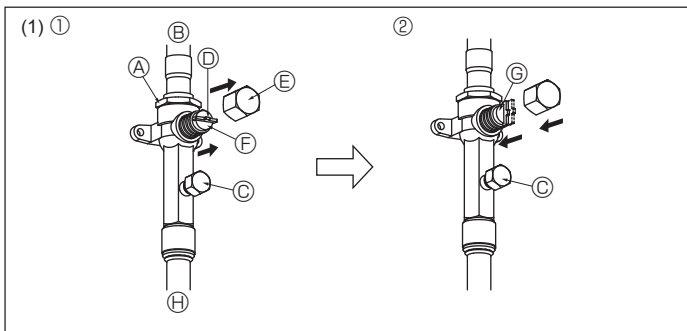
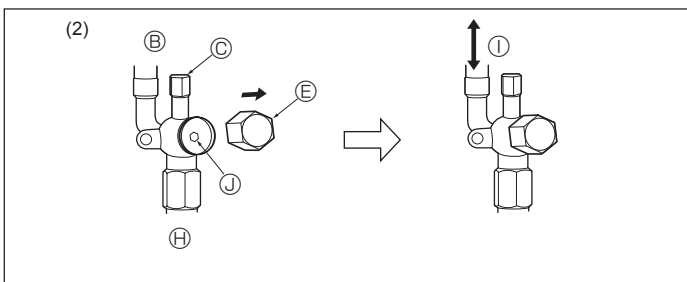

Fig. 4-10
Fig. 4-11
- (1) Gas side (Fig. 4-10)
- ① Remove the cap, pull the handle toward you and rotate 1/4 turn in a counterclockwise direction to open.
- ② Make sure that the stop valve is open completely, push in the handle and rotate the cap back to its original position.
- (2) Liquid side (Fig. 4-11)
- ① Remove the cap and turn the valve rod counterclockwise as far as it will go with the use of a 4 mm [3/16"] hexagonal wrench. Stop turning when it hits the stopper.
- ② Make sure that the stop valve is open completely and rotate the cap back to its original position.